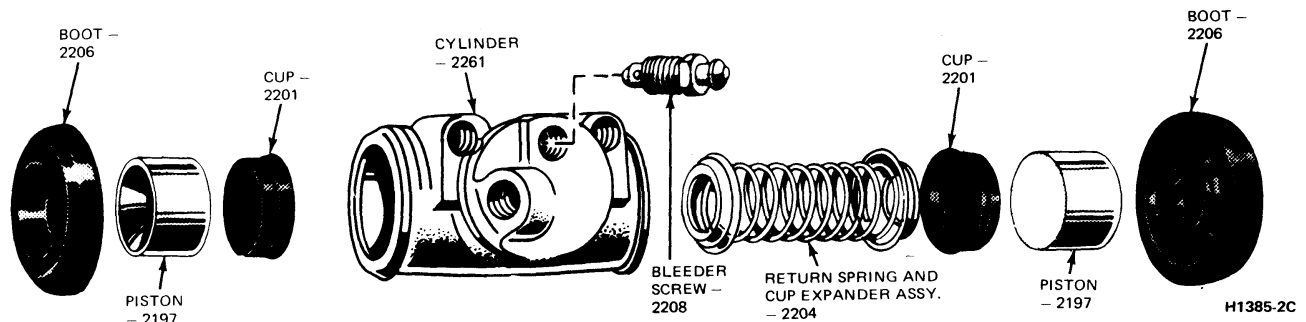

FIG. 20 Double Servo Brake Cylinder
1. With the wheel cylinder removed, remove the rubber boots from the ends of the brake cylinder. Remove the pistons, cups, and piston return spring and piston expander assembly from the cylinder (Fig. 20).
2. Install the bleeder screw (Fig. 20) in the brake cylinder.